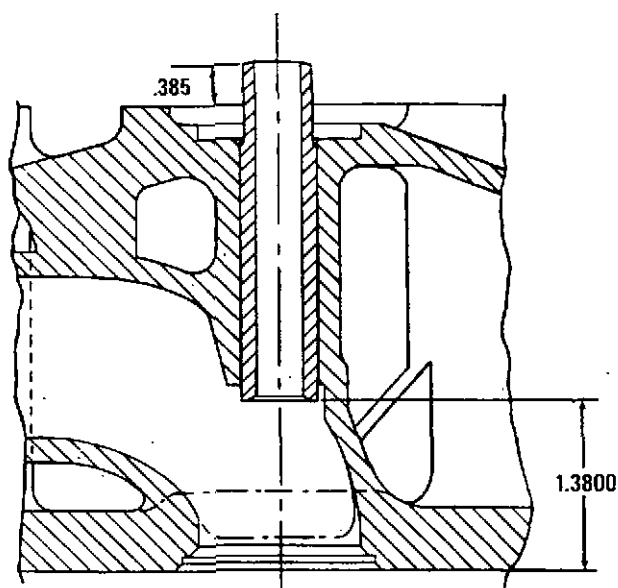

Figure 5-21. Valve Guide Installation
1. If the valve guides are excessively worn and require replacing, it must be done before any refinishing is done on the valve seats. This will insure that the seat being finished is square with respect to the new guide. To drive out the guides, use a drift with a 5/8-inch diameter and a 3/8-inch diameter pilot. Drive in the new guides so that the dimension from the lower edge of the valve guide to the gasket face of the cylinder head is 1.3800 inches. See figure 5-21. After the new guides are driven in, ream the inside diameter to correct any squeezing in or any distortion. Ream the exhaust valve guides to 0.3750 to 0.3760 inch. Ream the intake valve guide to 0.3740 to 0.3750 inch.